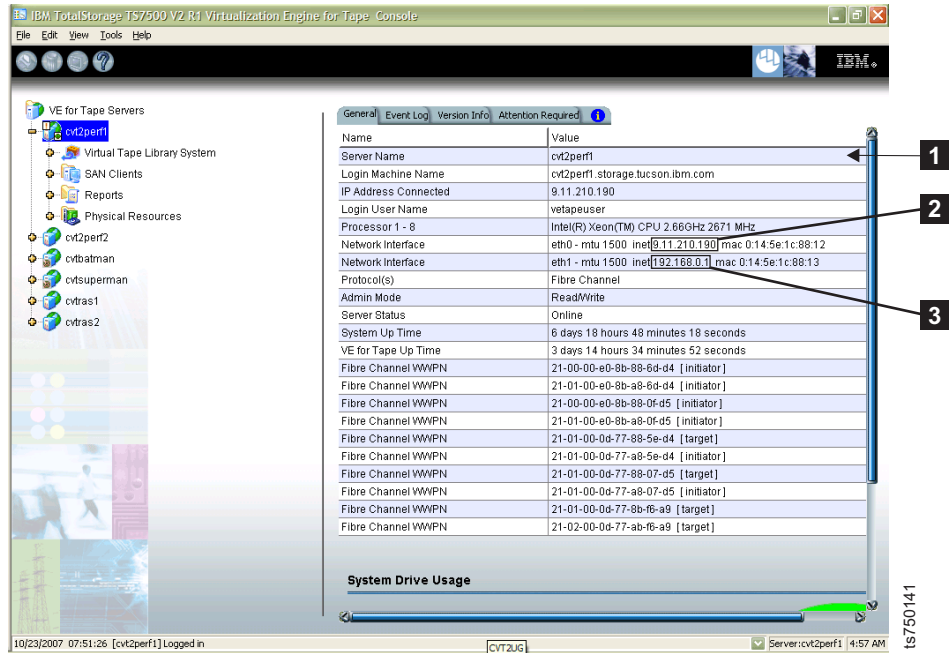

Figure 64. Determining hostname and network interface IP addresses
5. ___ In the VE console, perform the following substeps (see Figure 64):
- c. ___ Record the lower server's *hostname* (**1** in Figure 64) in row **1** of Table 7 on page 85.
- d. ___ Record the lower server's *Adapter 1 (eth0) network interface IP address* (**2** in Figure 64) in row **2** of Table 7 on page 85.
- e. ___ Record the lower server's *Adapter 2 (eth1) network interface IP address* (**3** in Figure 64) in row **3** of Table 7 on page 85.